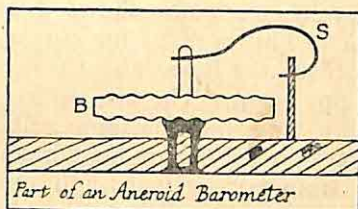

Fig. 13
Inside an aneroid barometer is an airtight steel box B out of which practically all the air has been pumped (fig. 13). The bottom of the box is fixed to the base of the instrument; the top is held out by means of a metal spring S.
*Notebook Exercise.*—Draw from memory figs. 13 and 15; write short notes to describe the two kinds of barometer and how they work.